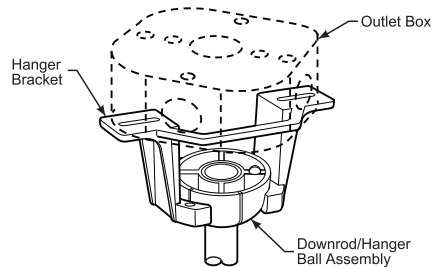

Figure 4
4. Loosen the two set screws and locking nuts in the downrod support of the motor assembly. Route the brown, blue, red, gray and yellow wires through the downrod. (Figure 4)
2. Carefully lift the fan and seat the downrod/hanger ball assembly onto the hanger bracket that was just attached to the outlet box. Be sure the groove in the ball is lined up with tab on the hanger bracket. (Figure 4) This fan is intended for standard and angled mounting options only. Closemount and flushmount options are not available. For angled ceilings, note the angle can be no more than 19°.
3. Connect wires using connectors as shown in Figure 4.
4. If installing the light kit, skip this step. Assemble the light kit wire cover to the light kit using the two key slots. Replace the removed screw and secure all three screws. (Figure 4)
- ☐ 4. If you need to replace the batteries. Remove the battery cover from remote control by screwdriver and retain the screw for later. (Figure 4)